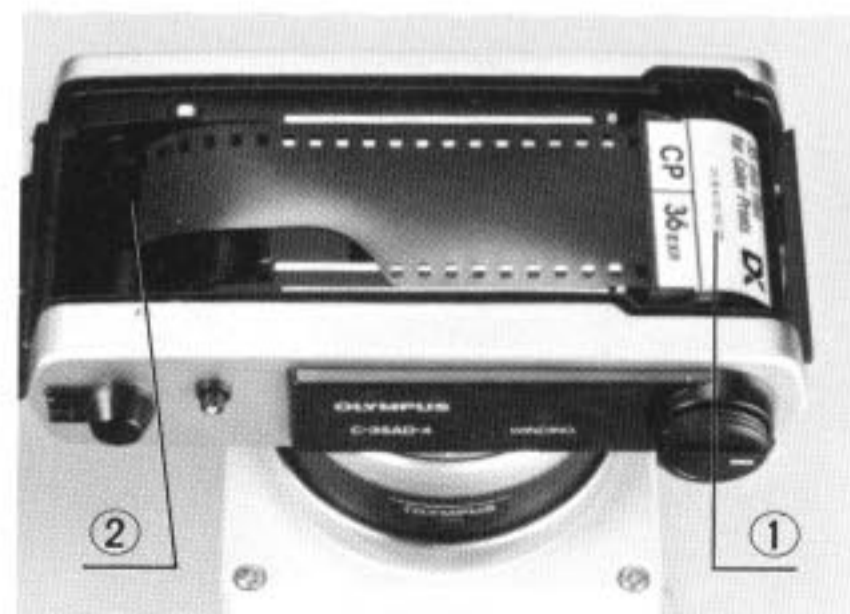

Fig. 16
2) Put the cartridge ① in the film chamber and push the rewind knob back into position. (Fig. 16)
3) Insert the film end into a slit on the take-up spool ②. (Fig. 16)